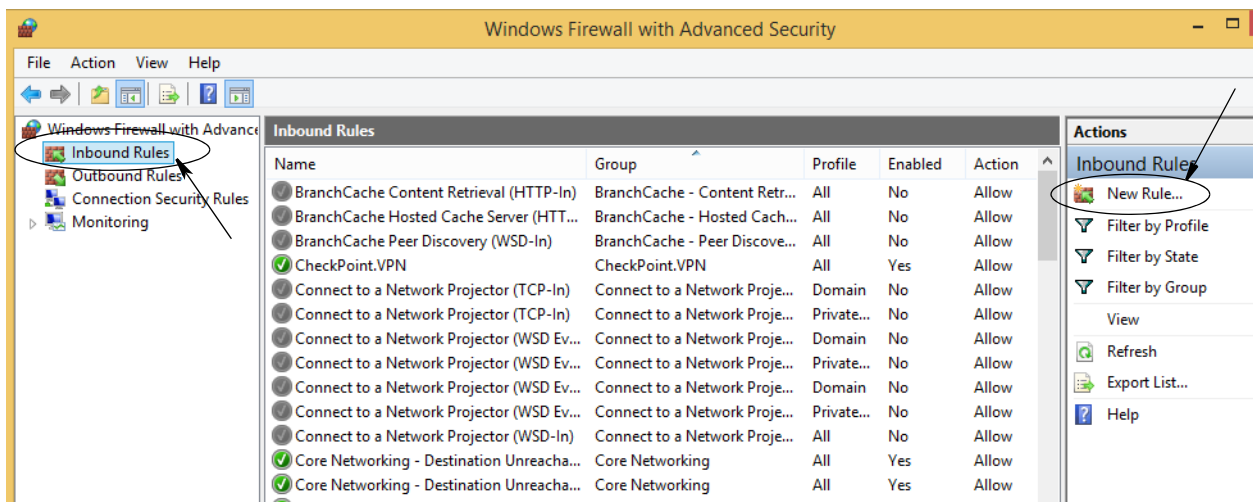

FIG. 44
- On the left side of the screen select Inbound Rules. Then, on the right side of the screen click on New Rule (FIG. 44).